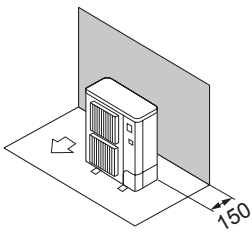

Fig. 2-7
- ① Kun forhindringer bagved (Fig. 2-7)